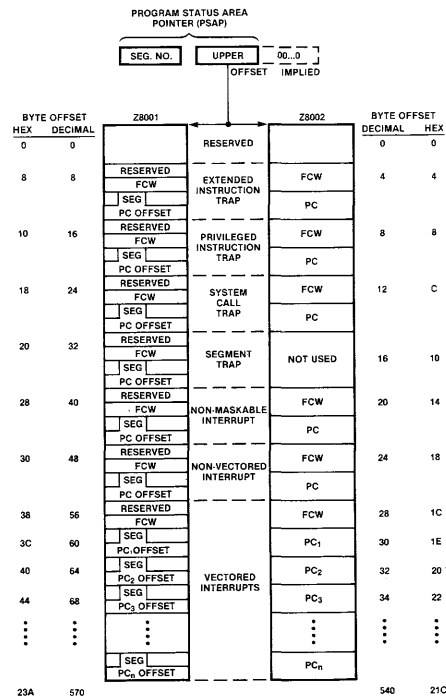

Figure 7-2. Program Status Area
7.6.3 Loading New Program Status. After saving the current program status, the new program status (PC and FCW) is automatically loaded from the Program Status Area in system program memory. The particular status words fetched from the Program Status Area are a function of the type of trap or interrupt and (for vectored interrupt) of the interrupt vector. Figure 7.2 shows the format of the Program Status Area.
The Program Status Area is addressed by a special control register, the Program Status Area Pointer, or PSAP. This pointer is one word for the nonsegmented Z8002 and two words for the segmented Z8001. As shown in Figure 7.2, the pointer contains a segment number (if applicable) and the high-order byte of a 16-bit offset address. The low-order byte is assumed to contain zeros; thus the Program Status Area must start on a 256-byte address boundary. The programmer accesses the PSAP using the Load Control Register instruction (LDCTL).